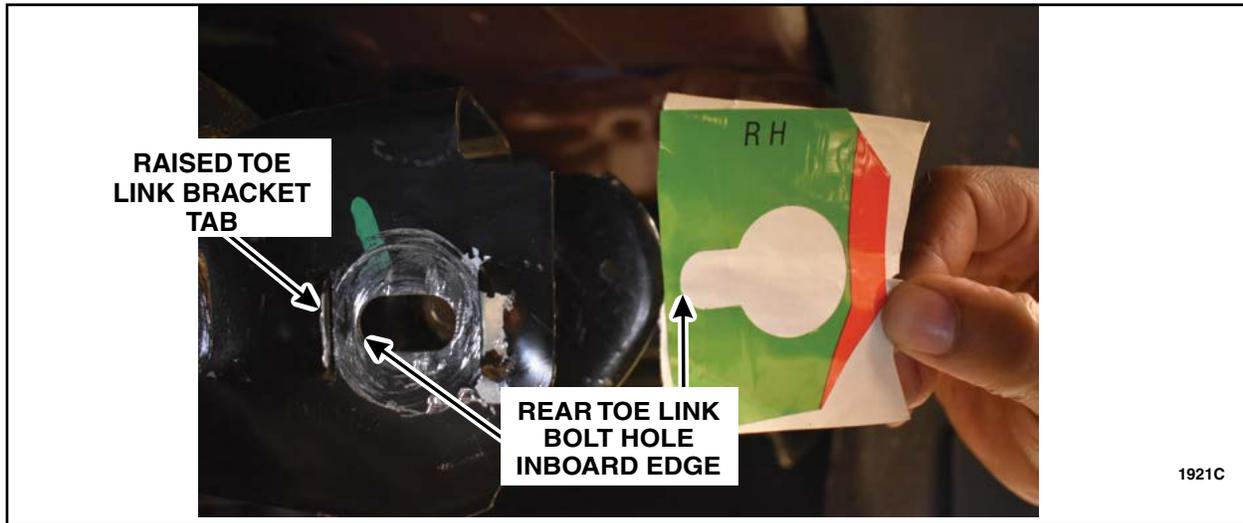

FIGURE 3
7. Place the appropriate side cut template sticker over rear toe link bolt hole aligning the cut template sticker to the inboard edge of the rear toe link bolt hole and along raised tab of toe link bracket. See Figures 3 and 4.